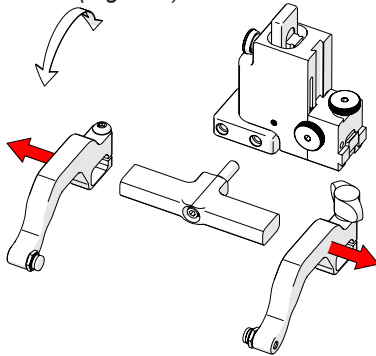

**Fig. 126** - Remove yoke
1. Using the supplied 3 mm driver, unscrew the yoke (*Fig. 126*).
1. Remove the yoke using the supplied 3 mm hex driver (Fig. 126).